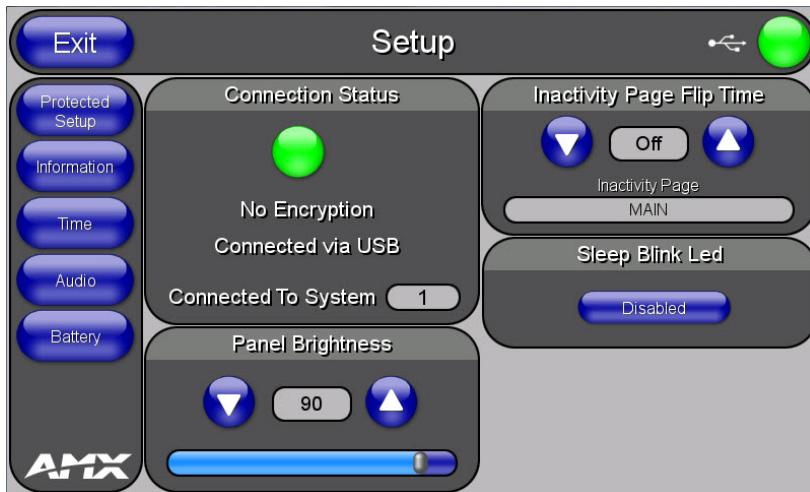

FIG. 39 USB icon
19. The USB connection will be signified by the *WiFi/Wired/USB* icon changing into a *USB* icon (FIG. 39).